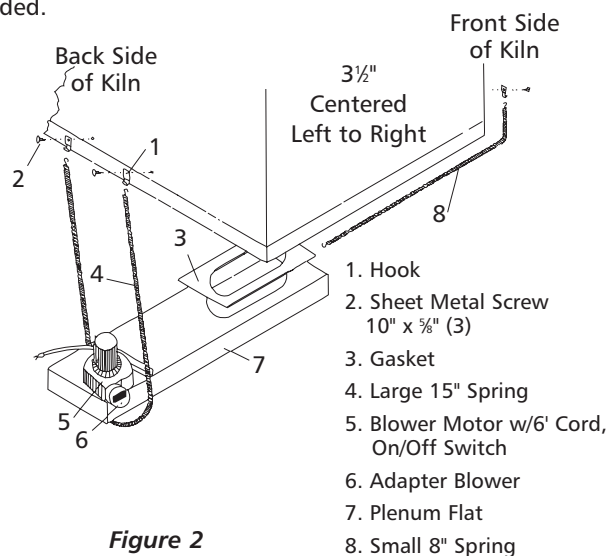

Figure 2
- Attach the short spring to the front of the metal plenum by hooking the open end of the spring into the small hole located at the bottom front. (See figure 2.)
- Attach one end of the long (15") spring to one of the hooks. Holding the plenum up against the kiln, pull the spring under the plenum and attach it to the other hook (See figure 2).